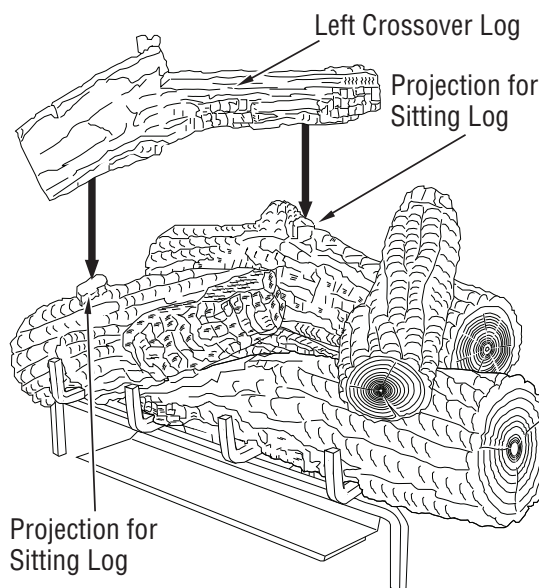

Figure 54 - Installing Left Crossover Log
- Place the left crossover log onto the rear log and the left front log as shown in **Figure 54**. The left crossover log has notches in the bottom that will line up with the projections on the rear log and the left front log.